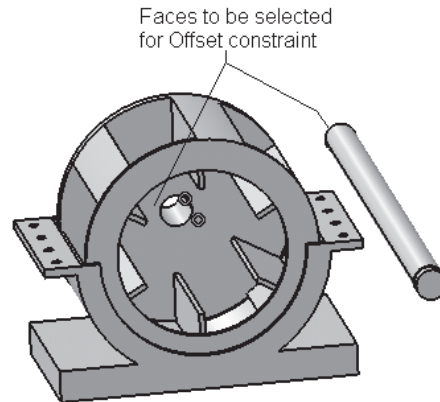

Figure 11-74 Faces to be selected for the Offset constraint
2. Select the **Manipulation** button from the **Move** toolbar. Choose the **Drag along X axis** button and drag the Motor Shaft to move it out of the assembly, as shown in Figure 11-74. Exit the **Manipulation Parameters** dialog box.
3. Choose the **Offset** button and then select the faces shown in the Figure 11-74. The **Constraint Properties** dialog box is displayed. Set the **Orientation** to **Same** and the **Offset** value to **0**. Update the model to place the Motor Shaft at its proper location.